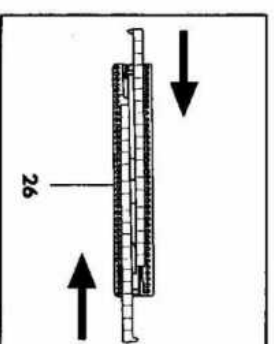

Fig. 15
To install the bristled frame for fitted and non-fitted carpets (26), introduce the stiff brushes into the appropriate guides with the tabs facing inwards (Fig. 15).